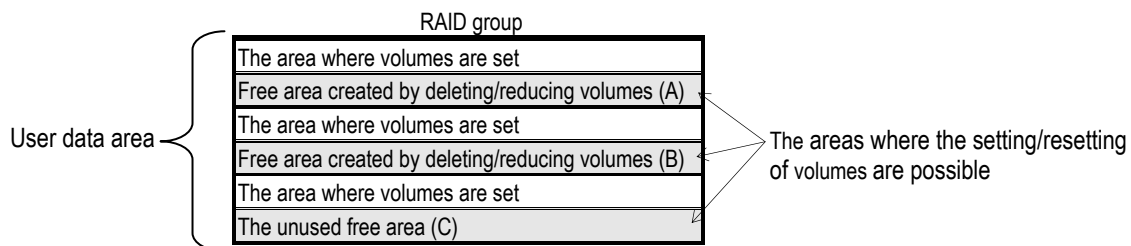

Figure 4.3.1 The Areas of Volumes
The areas of volumes are shown in Figure 4.3.1.
(1) Created areas of volumes
- You can create volumes without being conscious of continuity/discontinuity of free areas. When explaining it with Figure 4.3.1 as an example, you can create volumes up to the capacity totaling the free areas (A), (B) and (C). Internally, create volumes of the capacity necessary for each free area, and unify them.
(2) Deleted areas of volumes
- When “Free area created by deleting/reducing volumes” and “unused free area” are consecutive on the address, those free areas are merged, and become one “unused free area”. Although volumes other than the volumes adjacent to “unused free area” shown in Figure 4.3.1 are deleted, the capacity of “unused free area” does not increase.
- If the volumes created between the user data areas are deleted/reducing, the areas where volumes are deleted ((A) and (B)) are made. Volumes can be created again in each divided free area of (A) and (B) within the capacity range of each free area.
(3) Expanded areas of volume capacity
- You can expand volumes without being conscious of continuation/discontinuity of free areas. When explaining it with Figure 4.3.1 as an example, you can create volumes up to the capacity totaling the free areas (A), (B) and (C). Internally, create volumes of the capacity necessary for each free area, and unify them to the target volume. The free areas are used as needed in order from the free area of the small LBA (Logical Block Address) in default. Moreover, the unused maximum volume is automatically assigned to the volume newly created in each free area, and they are unified to the target volume to make one volume. You can specify the free areas to use. You can also specify volumes which are assigned automatically.
(4) Reduced areas of volume capacity
- When the “free area created by deleting/reducing volumes” and “unused free area” are consecutive on the address, those free areas are merged and become one “unused free area”. Although volumes other than the volume adjacent to the “unused free area” shown in Figure 4.3.1 are reduced, the capacity of “unused free area” does not increase.
- If the volumes created between the user data areas are reduced, the areas (A) and (B), where the volumes are reduced, are made. You can create the volumes again in each divided free area of (A) and (B) within the capacity range of each free area.